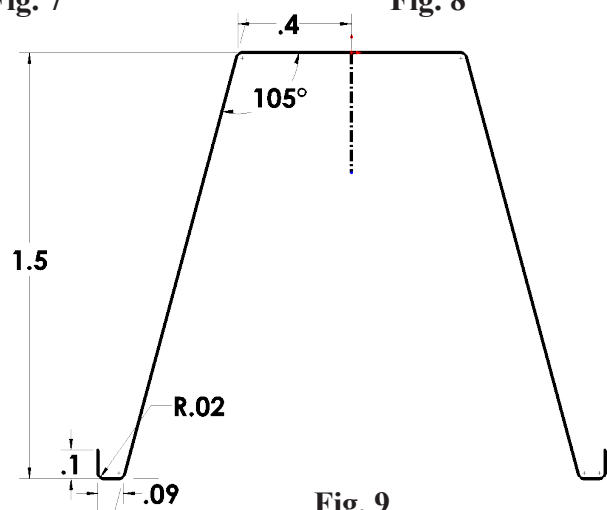

Fig. 9
Step 13. Click **Mirror Entities**  **Mirror Entities** on the Sketch toolbar, **Fig. 9**.